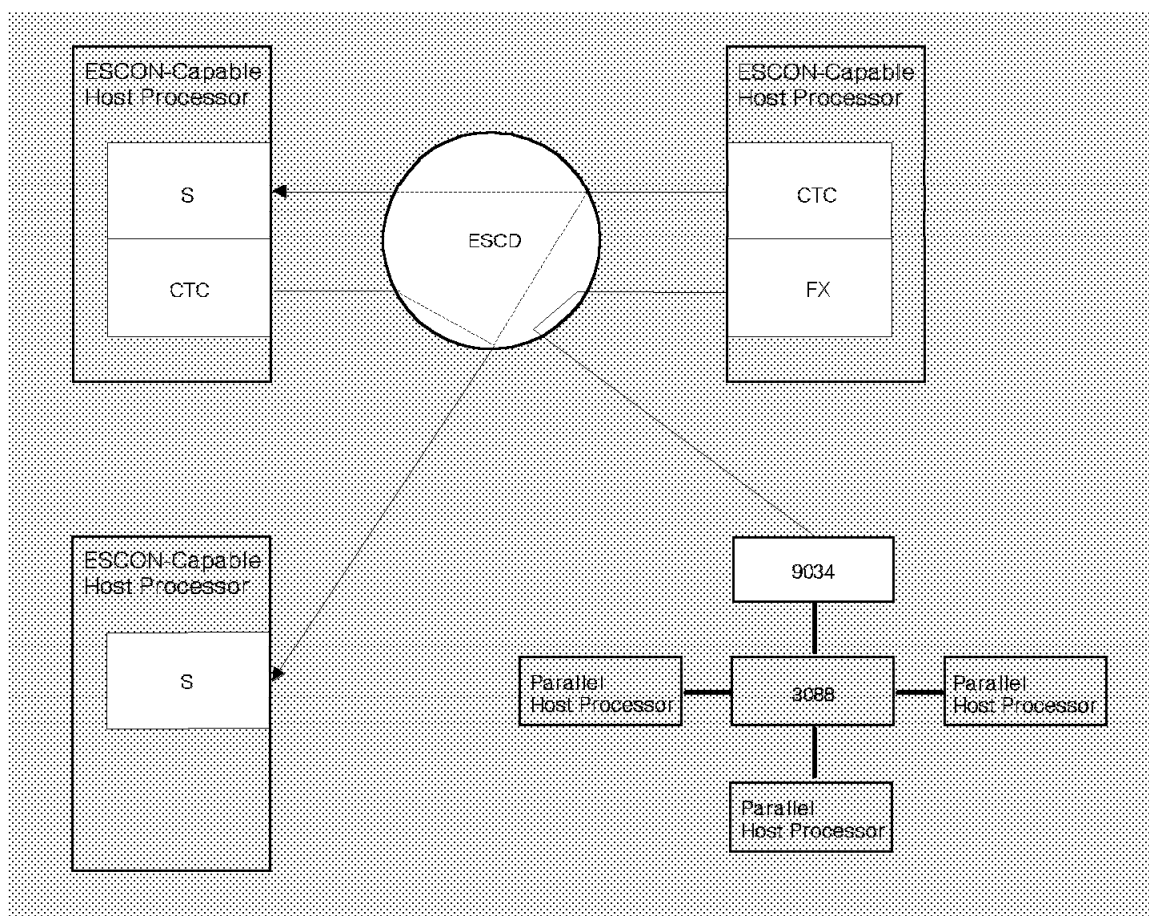

Figure 4. Channel-to-Channel Processor Communications.
**IOCP Considerations:** Channels supporting CTC communications must be paired, one operating in CTC mode (TYPE=CTC) and the other operating in native mode (TYPE=S). (Refer to Figure 4.) When using a single ESCD, the number of channels required for TYPE=CTC and TYPE=S is:
where  $n$  is the number of system images or host processors,  $ctc$  is the number of channels TYPE=CTC, and  $s$  is the number of channels TYPE=S. This allows any one image to be able to communicate with any other image. The configuration in Figure 4 does not provide for alternate paths. The availability in the case of a single channel failure can be increased by making all images the same; that is, each image would have a TYPE=CTC and a TYPE=S defined. Full redundancy can be achieved with the number of channels defined for TYPE=CTC and for TYPE=S equal to  $(2 \times [(n-1) \times (ctc + s)])$  and with two Enterprise Systems Connection Directors. (Refer to Figure 5 on page 50.)